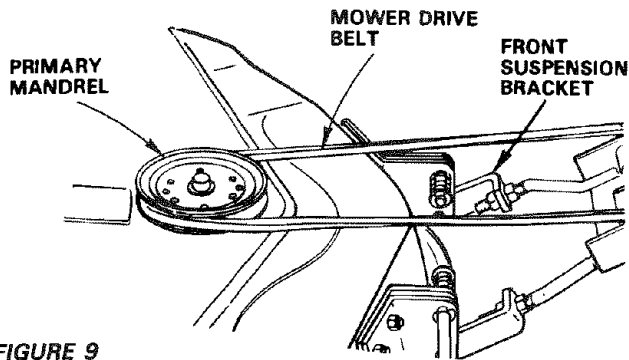

FIGURE 9
- Roll drive belt over primary mandrel (Fig. 9).
- Pull mower drive belt over front mower suspension bracket (Fig. 9).